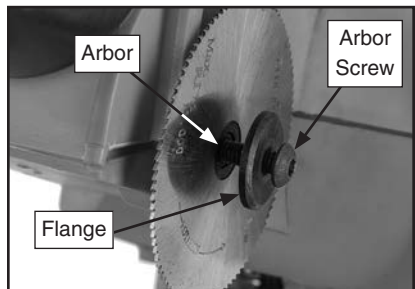

Figure 7. Blade on arbor with arbor screw and flange.
4. Place new blade on arbor in correct orientation (see **Figure 7**). If blade has rotational arrow, align blade arrow with arrow on saw.